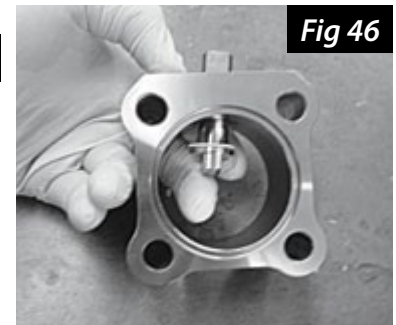

Fig 46
8. Push the valve stem back in to completely remove it from the valve body. Slide the Teflon® spacer off and discard it (Fig 46).